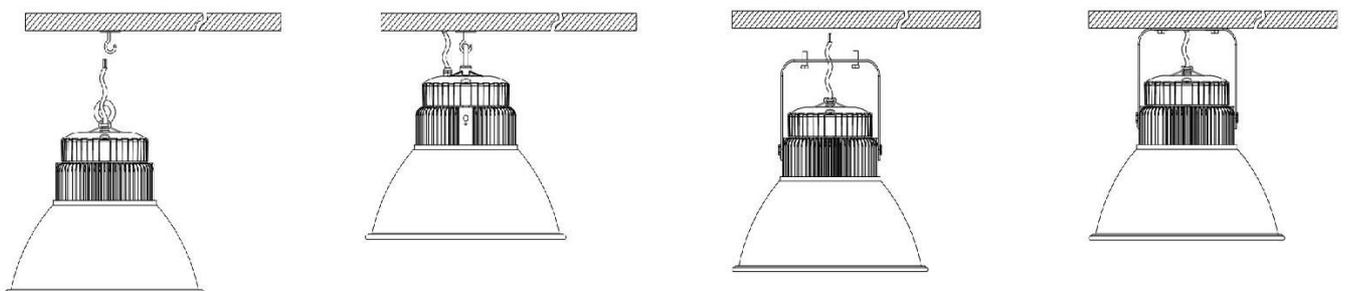

Fig. 2
- The LED High Bay adopts hook installation, which is available in a variety of installations. Please refer to fig.2 for detailed installations.